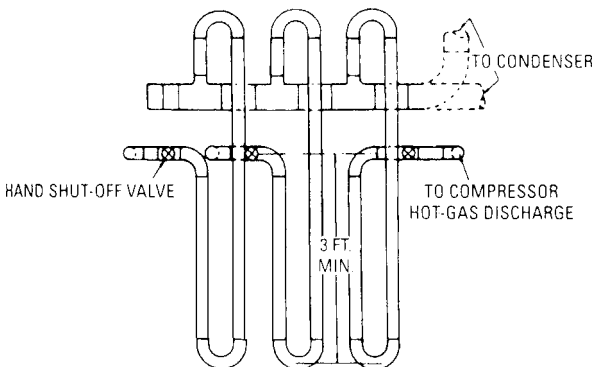

Figure 15-7 One way to connect hot-gas discharge lines.
- The compressor hot-gas discharge lines should be connected as shown in Fig. 15-7.